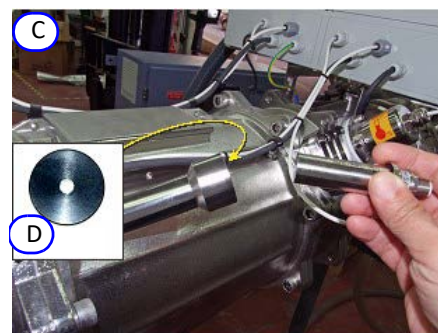
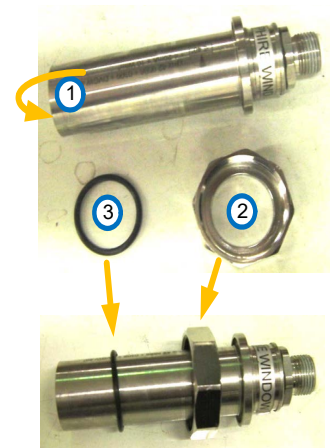

Figure 10-32: Removing a Sensor C 2 (Generic View)
Figure 10-35: Sensor, nut and washer
- Step 3.** Carefully pull the sensor out of the housing (**Figure 10-32**). If a pinhole (**D**) is present it slides out. The large nut comes off together with the sensor.
- Step 4.** Check the sensor's lens (**1** in **Figure 10-35**) for condensation. If present, using a dry lens cloth, dry the lens thoroughly.
- Step 13.** Unpack the new sensor (**Figure 10-35**) and the sensor pinhole (**D** in **Figure 10-32**, if supplied).